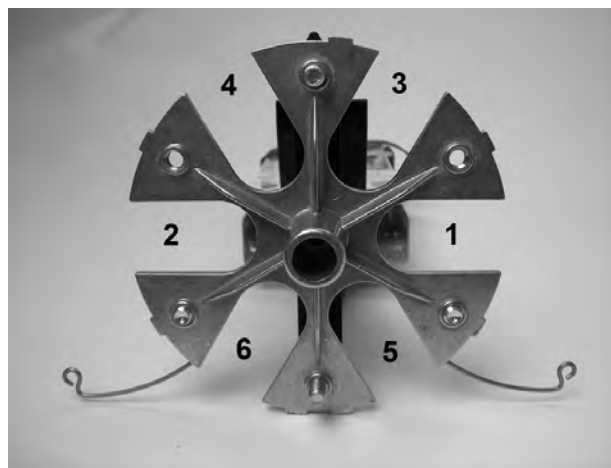

Fig 5
**Note:** The smaller SMB and lug can be used on most cables, but cables with large strength members may require the large SMB and lug (i.e. 144 LBT cable). The large SMB should not be used in the top two ports (3 & 4) of the metal frame (Fig. 5).
4. Determine which port of the metal frame the cable will be installed (Fig. 5). Once the cable termination hardware is installed onto the cable sheath, the assembly slides into the metal frame. Observe the orientation needed with the cable retention hardware to allow easy installation without twisting the cable.
**Note:** If grounding is required, the ground wire should be positioned on the cable so it clears the tray support tower (ports 3, 4, 5 or 6). The black plastic tray support tower is on the other side of the metal frame above (Fig. 5).